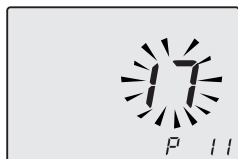

Fig. 7.30
- The writing **P11 - SEt** alternates on the display (Fig. 7.30).